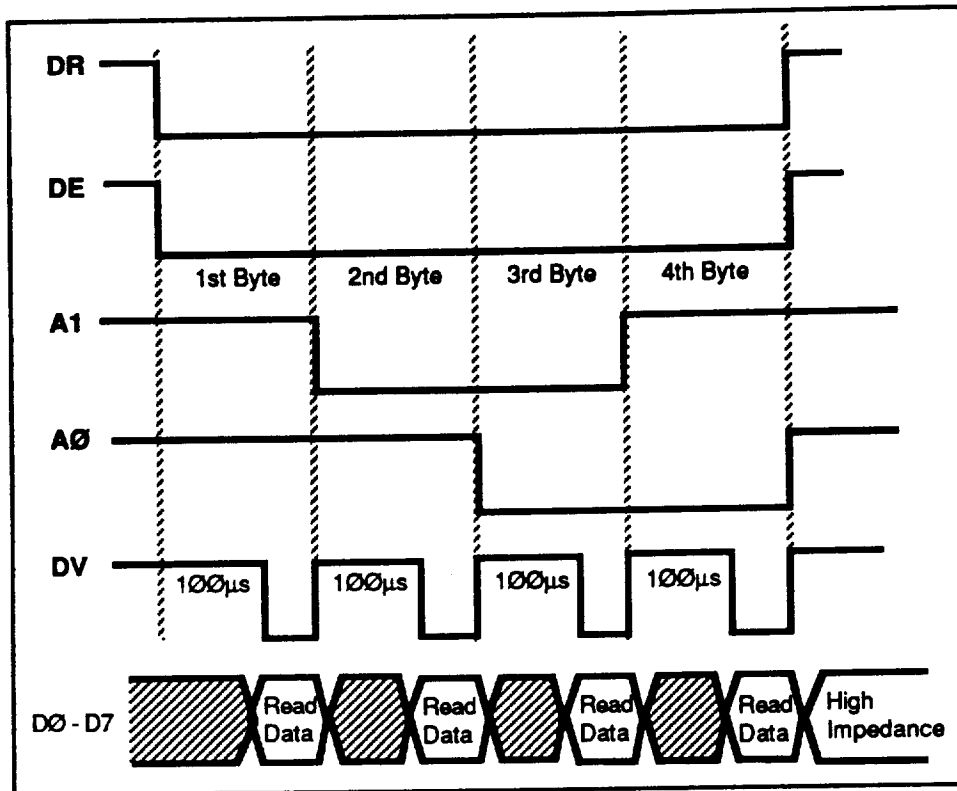

Figure 4-3. Timing—8-Bit Parallel Output (-1 Decoder)
This section explains the process of reading a position in 8-bit segments. Wire and configure your decoder (DIP switches and jumpers) as described in Chapter 2, Getting Started (-1 Decoder 8-Bit Parallel Interface). Use DIP switch S5 to select the binary (OFF) or BCD (ON) output format. To read a position (4 bytes) from the AR23 Encoder, refer to Figure 4-3 and follow the steps below.